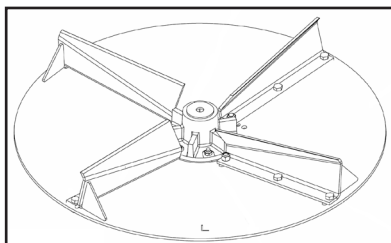

Figure 1 - LH spinner disc - gussets point counter-clockwise
3. Position fin with gusset near outer edge of spinner disc per figures 1 and 2.
- Figure 1 - Gusset faces counter-clockwise for lefthand disc.
- If spinner disc was removed completely from spreader, place spinner discs back in proper position. When facing rear of spreader, the righthand disc goes on the right side of the spinner assembly, and the lefthand disc goes on the left side. When properly installed, the discs should be positioned to each other as shown in Figures 1 and 2.